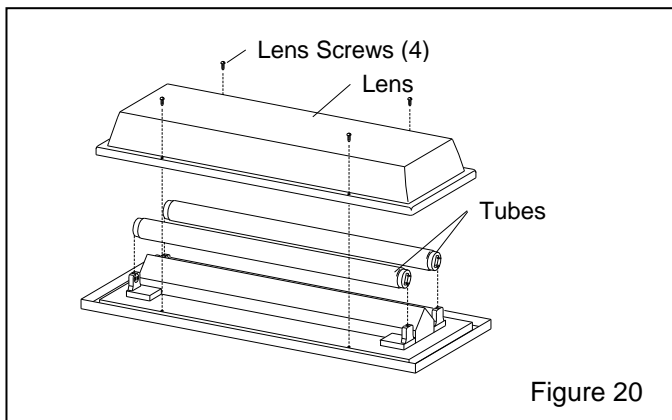

Figure 20
**7.6.3.2** Flip the fixture over to access the lens screws, ref. Figure 20.